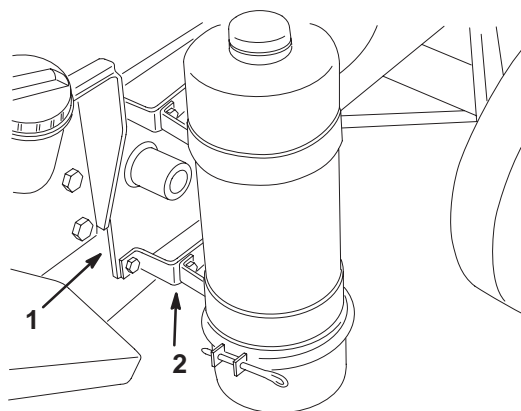

Figure 6
4. Using same mounting holes, secure left hopper mounting bracket and air cleaner mounting brackets to frame using (4) 5/16 – 18 x 1-1/4" capscrews and locknuts as shown in fig. 6.